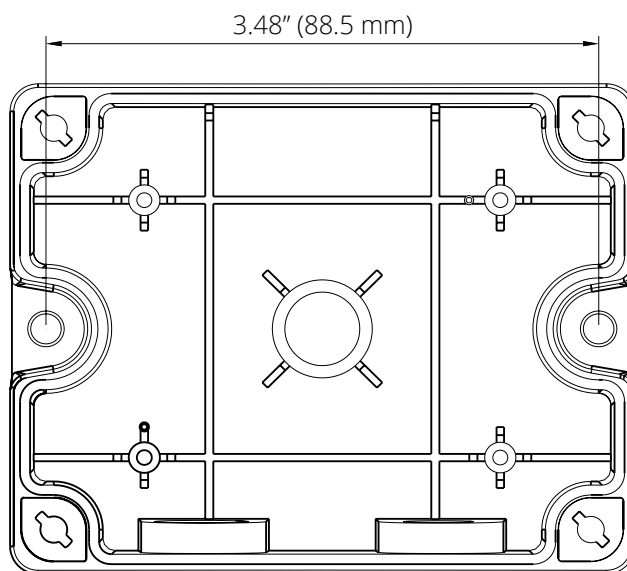

Figure 6 AcuTEMS OA Mounting Hole Location for Surface Mount
1. Drill two screw holes according to the locations shown in the Figure 6 below. Ensure the sensor is levelled and the sensor probe is pointed downward and perpendicular to the ground.